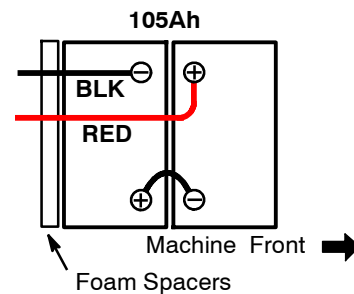

FIG. 1
2. Carefully install the batteries into the battery compartment as shown (Figure 1).
3. Connect the battery cables as shown (Figure 1).